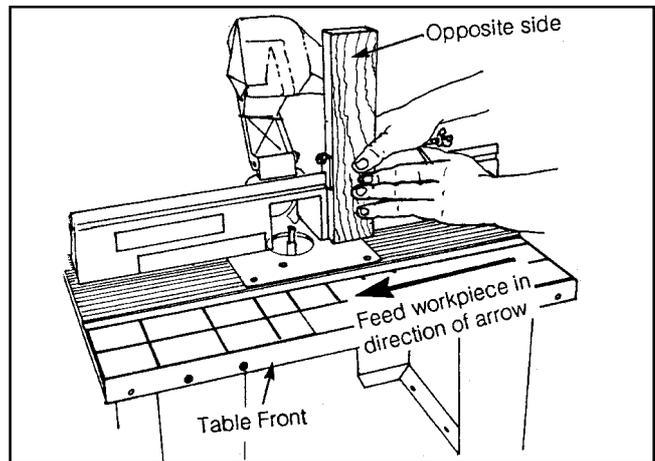

fig. Z.3
5. Slide **Push Block** and workpiece back to the position as shown in fig.Z.3. When routing, always feed against the rotation of the cutter. Feed workpiece in the direction shown by the arrow.
6. Switch router on. While holding **Push Block** and guiding workpiece against fence with both hands and fingers at a safe distance from cutter (fig.Z.3).